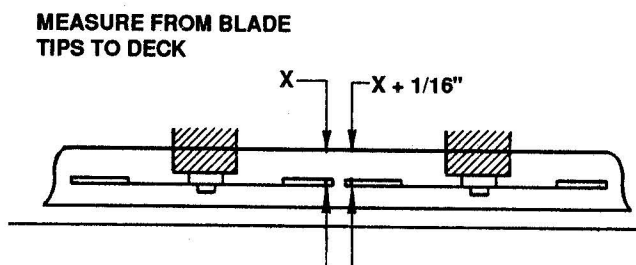

FIGURE 4.7
8. Measure the distance between blade tips "A" and deck. See Figure 4.7.
9. Rotate blade tips "B" to center of deck. Measure the distance between blade tips and deck. Refer to Figure 4.7.